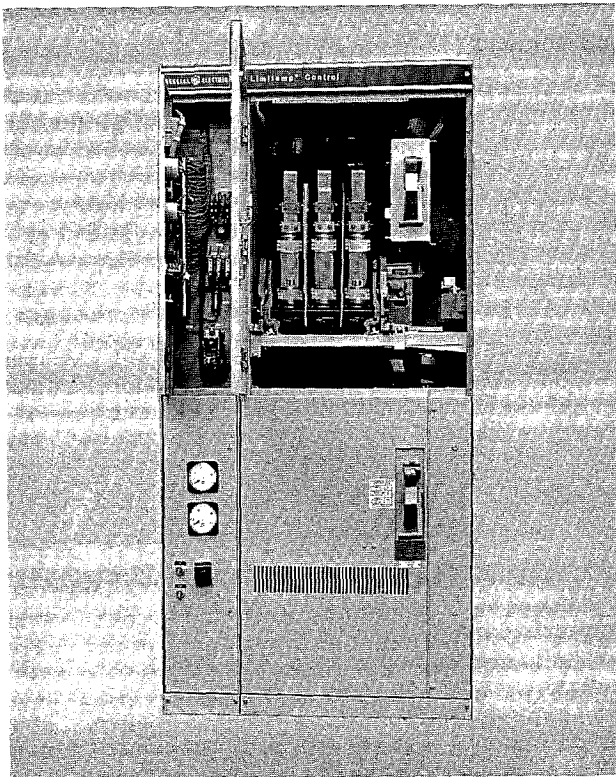

Fig. 63. Two-high enclosure with top high-voltage door open.
2. Open the upper high-voltage door (See Fig. 63).